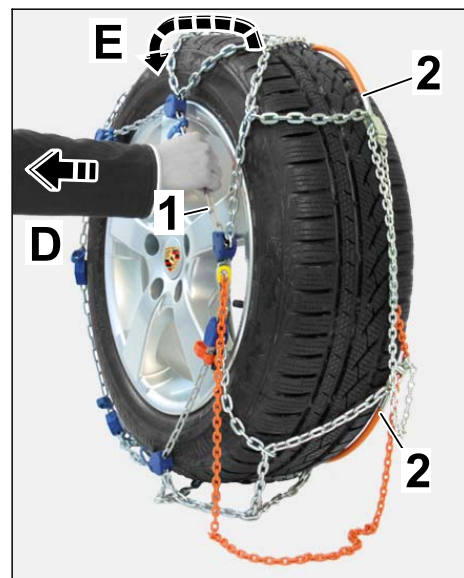

Figure 18
3.1.5 Hold the chain net above the center of the axle and pull it away from the wheel (⇒ *Figure 18-D-*).
End of spring steel clip is rubbing slightly on the tire running surface (⇒ *Figure 18-E-*).